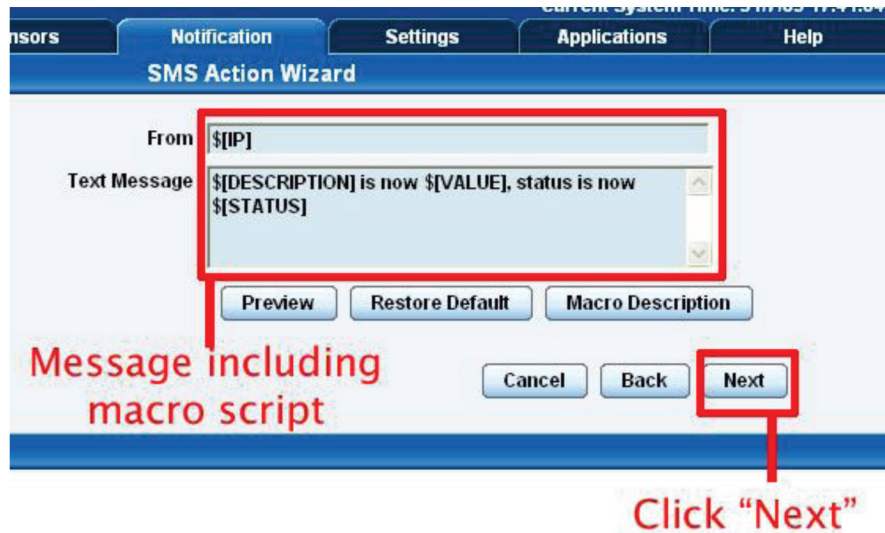

Figure 4-25. Macro script message.
4. You will now see that the SMS message has changed its format to include the Macro script. (See Figure 4-25.) Click “Next.”